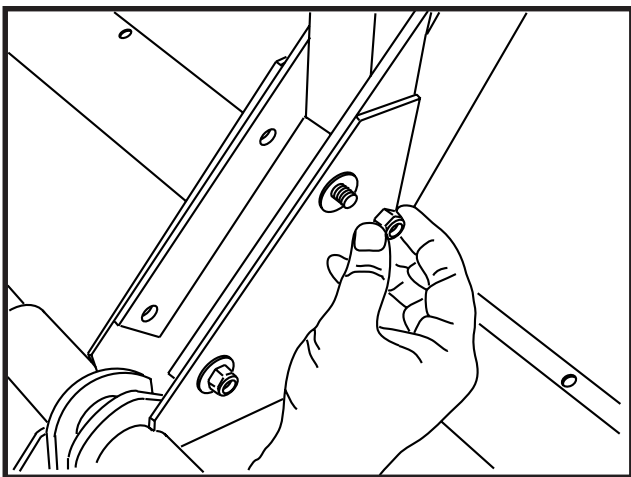

FIGURE 5
- Install tow bar by sliding bracket into frame mount and aligning holes. See Figure 5.
- Insert four 3/8" x 1" bolts, four washers placed on outside of frame and four 3/8" lock nuts. Tighten securely with socket wrench. See Figure 5.